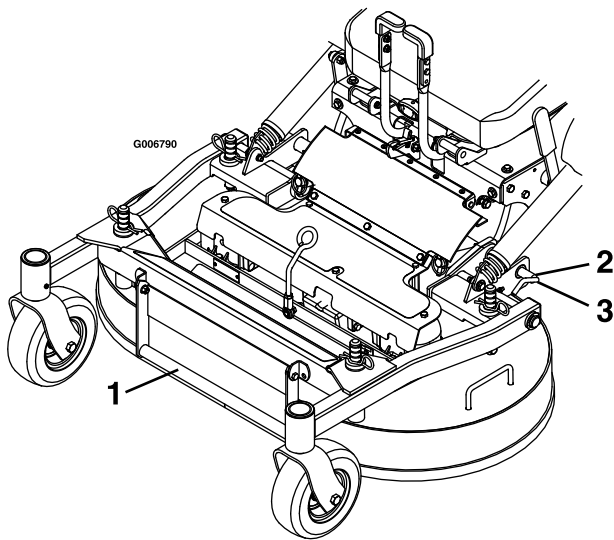

Figure 21
5. Release the mower deck locking pins on each side (Figure 21).
4. Push the deck locking pins inward and rotate them forward to securely lock the mower deck in the lowered position (Figure 21).